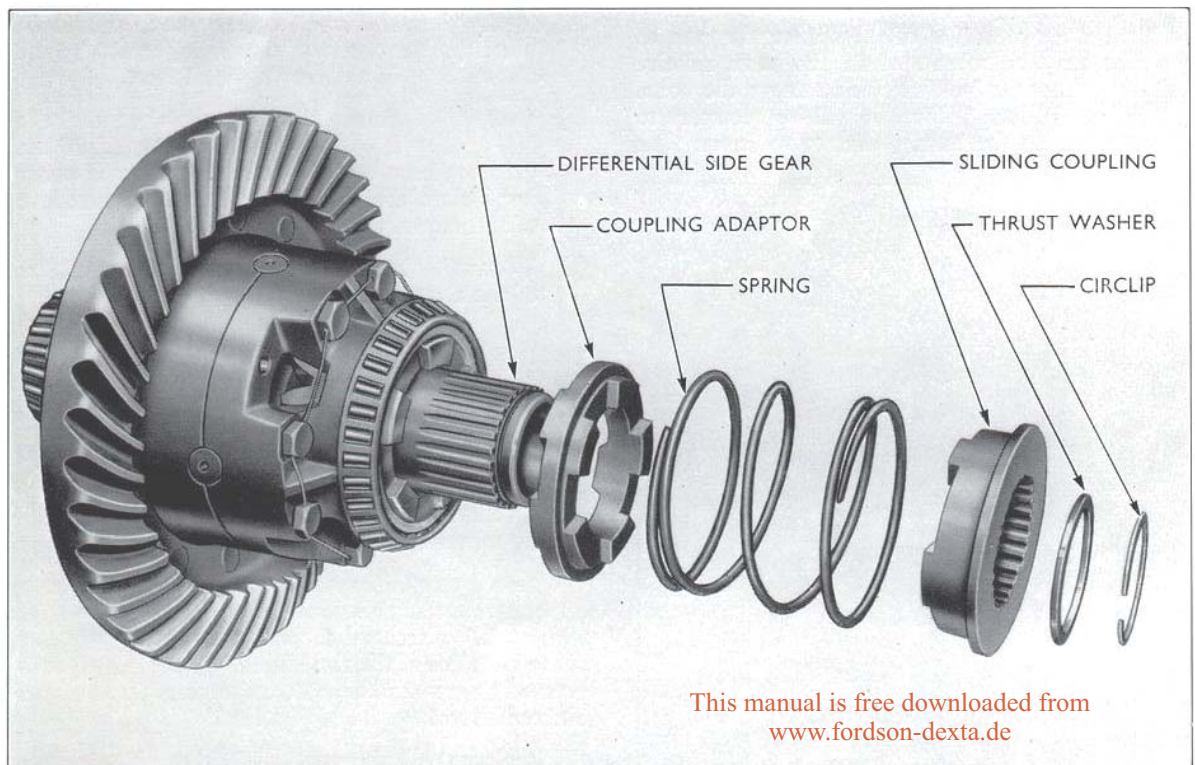

Fig. 17
2. Remove the circlip retaining the sliding coupling to the right-hand side gear and remove the thrust washer, return spring, and coupling adaptor (see Fig. 17).
1. If a differential lock is fitted, remove the circlip retaining the sliding coupling to the right-hand side gear. Remove the thrust washer, sliding coupling, coupling return spring and coupling adaptor (see Fig. 17).